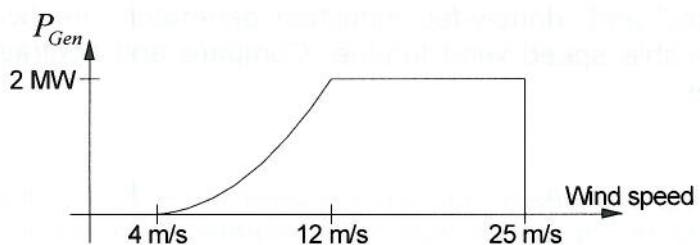

Figure Q1
- (c) Figure Q1 shows the power that a particular wind turbine can produce as a function of wind speed. Explain its shape. [4]